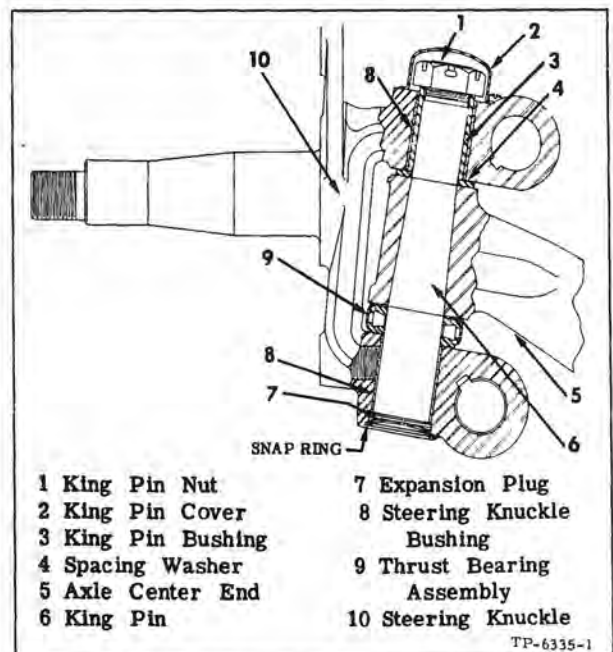

Figure 1—Steering Knuckle Assembly
Steering knuckles (fig. 1) are supported on solid king pins which are tapered at center section to fit snugly in tapered holes in axle outer ends. Nut installed at threaded upper end of each king pin draws bushing (3) against spacer (4) and secures king pin in axle. Cotter pins are used to secure king pin nuts.
Load is transmitted from axle center to knuckle through tapered roller thrust bearings (9, fig. 1). Covers and plugs (2 and 7, fig. 1) exclude dust and moisture from knuckle bushings and serve as lubricant seals. Steering knuckle bushings can be replaced.
5. Remove cover (2, fig. 1) from top of knuckle to expose king pin nut. Remove lock ring from